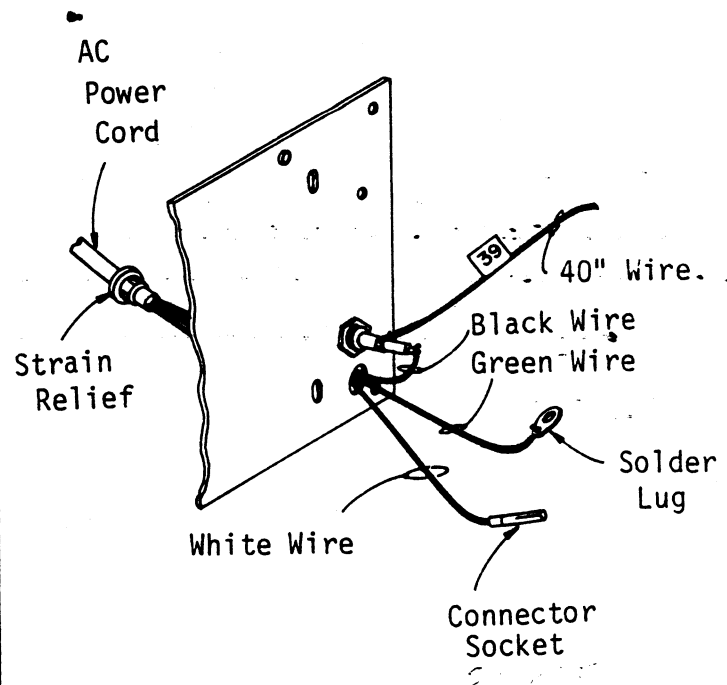

Figure 5-54. AC Power Cord Installation
5-63. AC POWER CORD (Figure 5-54)
- ✓ 2. Put the strain relief (Bag 2) on the cord and position it as shown in Figure 5-54.